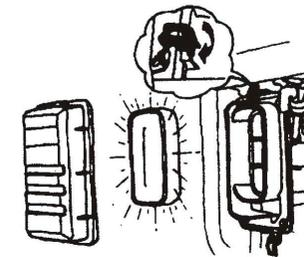

Figure 19
3.4 Put the filter element back to its original place, mount the cover and fasten it securely (Figure 19)